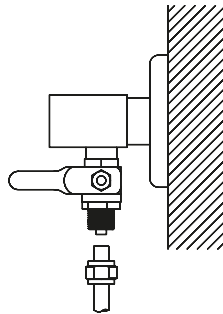

Figure 8. Mains inlet valve
- Mains water is supplied to the system by opening the 3/8 ball valve (Figure 8). It is seen that the pump is running.
- When there not anyone in the house, close the water inlet valve of the appliance for safety purposes (Figure 8).
- In any unfavorableness (Figure 8) close the water inlet valve and consult Cebilon Authorized Service.